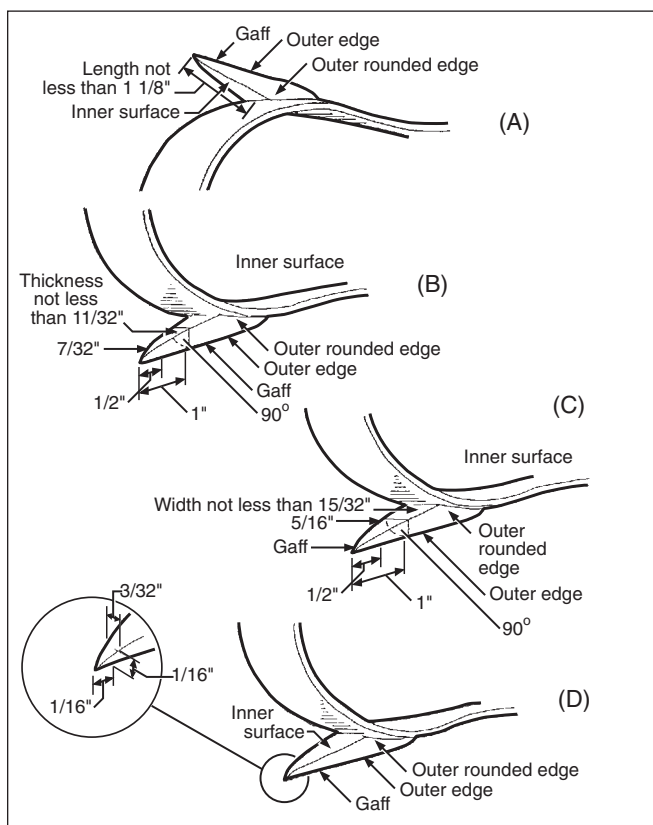

Figure 5c—Gaff parts.
5. Keep gaffs sharp and maintain the gaffs' original shape as closely as possible during sharpening (figure 5c).